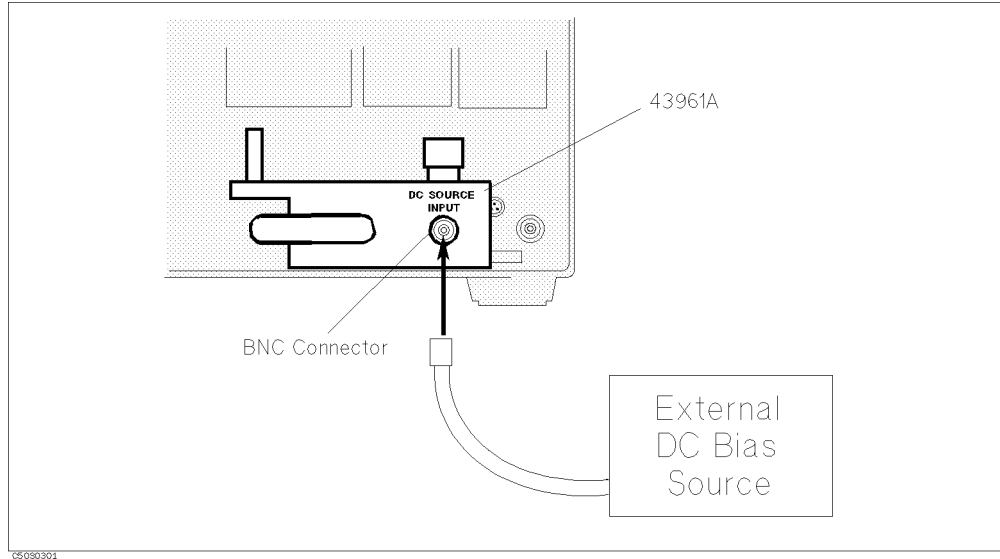

Figure 3-1. Connecting External DC Bias Source
2. Connect the external DC bias source to the DC SOURCE INPUT port of the impedance test kit. (See Figure 3-1.)